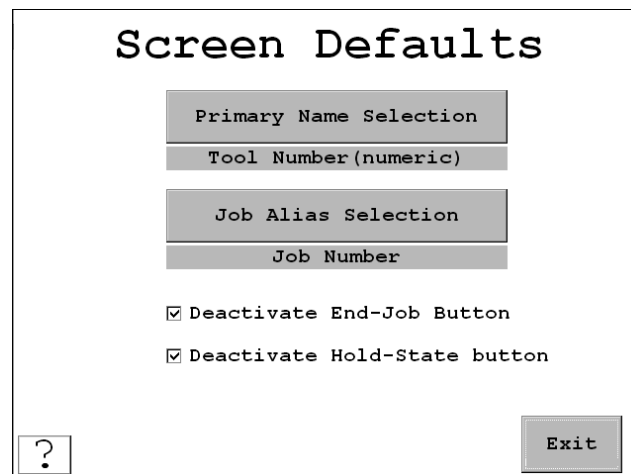

Figure 3-19. Screen Defaults Menu, Primary Item Name/Job Alias Selection
3. Press *Screen Defaults*. The Screen Defaults screen appears, Figure 3-19.